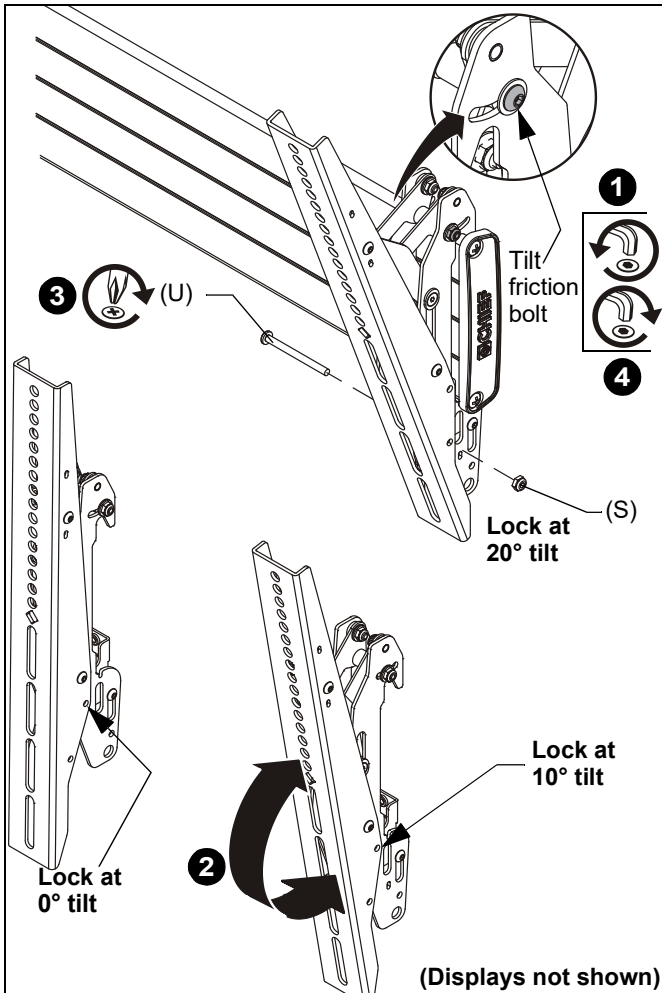

Figure 13
1. If necessary, loosen button head tilt friction bolt (located on side of interface bracket). (See Figure 13)
2. Adjust tilt as required. (See Figure 13)
3. The tilt may be locked at 0°, 10° and 20° using one 10-24 x 2-1/4" Phillips head screw (U) and one 10-24 lock nut (S) per interface bracket. (See Figure 13)